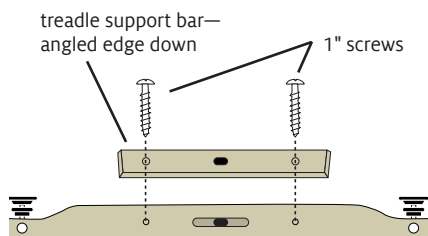

FIGURE 3: ATTACH THE TREADLE SUPPORT BRACE
4. In front of the treadle support bar, position the treadle support brace with its long angled edge down (Figure 3). Using two #8 x 1" Phillips truss head sheet metal screws, attach the treadle support brace to the treadle support bar. Set the treadle assembly aside.